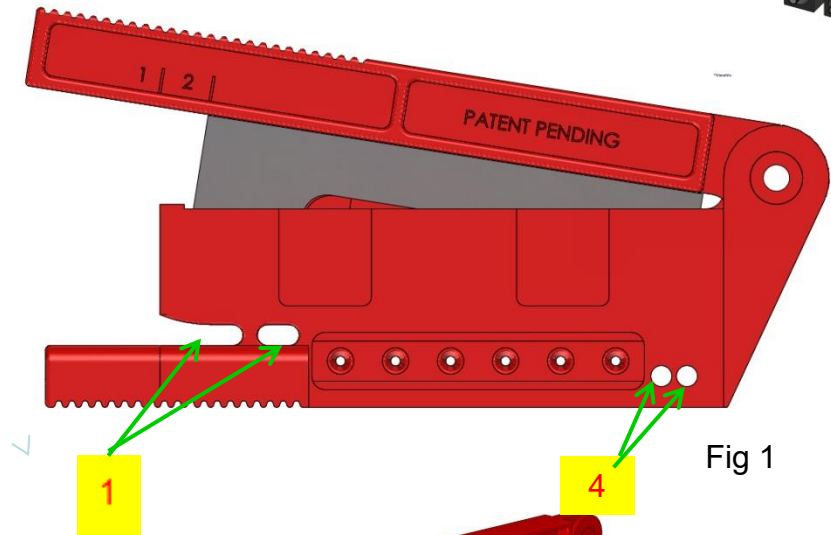

Fig 1
- 1.If necessary, use the tool to cut the plastic optical fiber from the cable spool or just finishing the bare cable in slots # 1 as shown in (Figure 1).
- 3.slide the slit POF cable into the strip hole, Item 4 in Figure 1. You want to strip at least 1" of jacket off the cable.